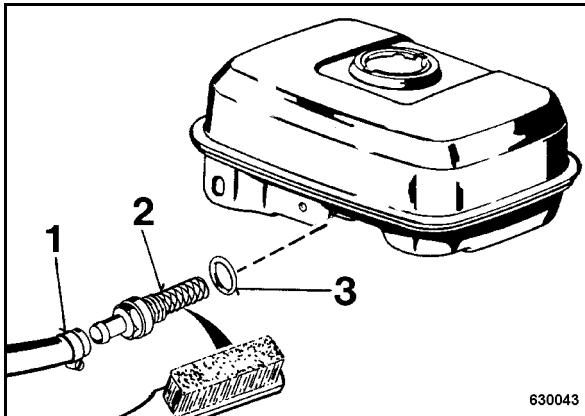

Fig. 63
- Open the hose clamp (1) (Fig. 63), pull off the hose.
- Unscrew fuel screen (2).
- Check the seal (3) for damage, change if necessary.